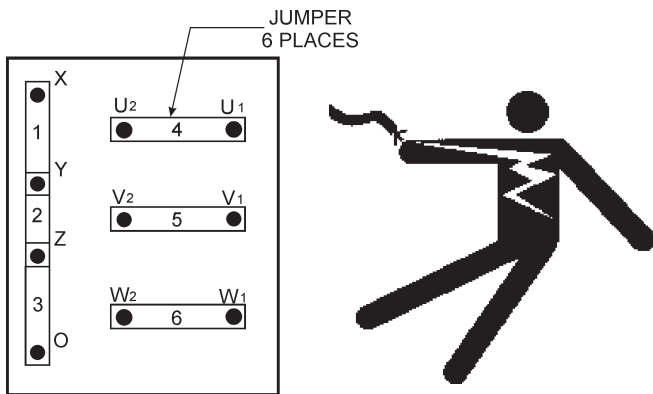

Figure 16. Voltage Change-Over Board
A wide range of voltages are available to supply voltage for many different applications. Voltages are selected by applying jumpers (6) to the (Figure 16). To obtain some of the voltages as listed in Table 7 (see below) will require a fine adjustment using the (VR) located on the control panel.
The (Figure 16) is located on the control box, behind the generator control panel. This board has been provided for ease of voltage selection.